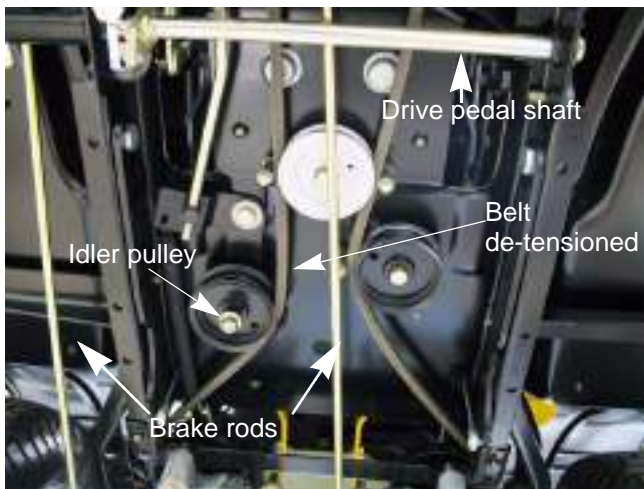

Figure 3.1
- The brake cross shaft assembly also has a link that is connected to the drive belt idler pulley bracket. When the brakes are applied, the idler pulley is pulled away from the drive belt. This de-tensions the belt, disengaging drive to the transmissions. See Figure 3.1.